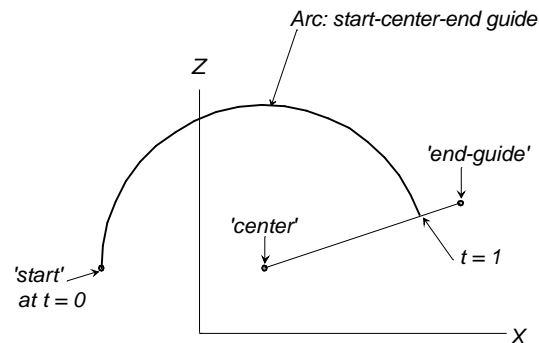

Fig. 2. Arc2.ms2.
- 1 **File>Open ARC2.ms2** (Fig. 2).